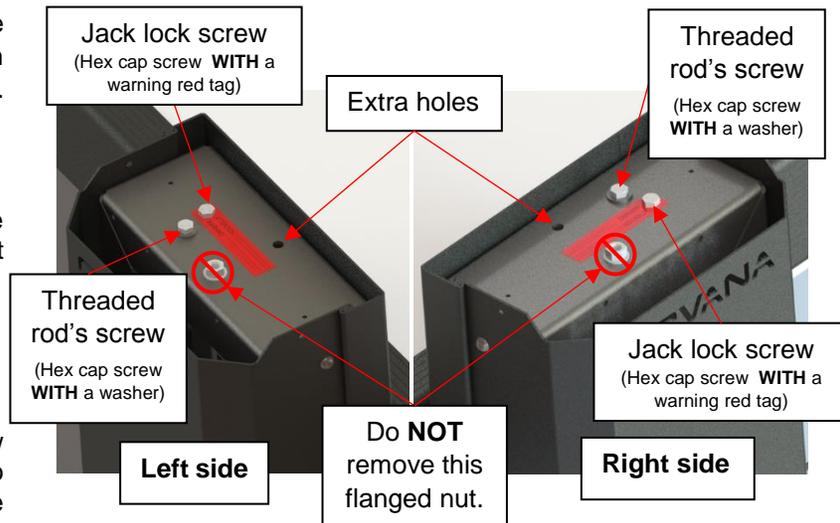

Figure 81
19) Once the operator is properly installed, remove the jack lock screws from the posts and put them in the extra holes on top of the posts (Figure 81).
- 23) Use the threaded rod screws (Figure 81) on both posts to align the pivot arms' screw slots with the screw on the cover. Raise the post by turning the threaded rod screw counter clockwise and lower the post by turning the threaded rod screw clockwise.